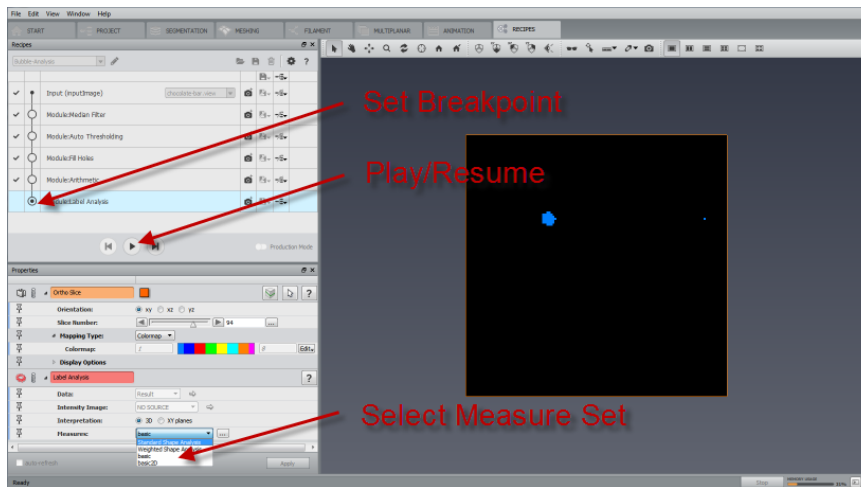

Figure 5.13: Continue a Recipe After Modifications
- Run the recipe until it reaches the breakpoint. At this stage, it is not possible to change the input data or to quit the *Recipes* workroom. Only the properties of the tool are available for change. In port *Measures*, select *Standard Shape Analysis*. Click *Play* to continue (see Figure 5.13).